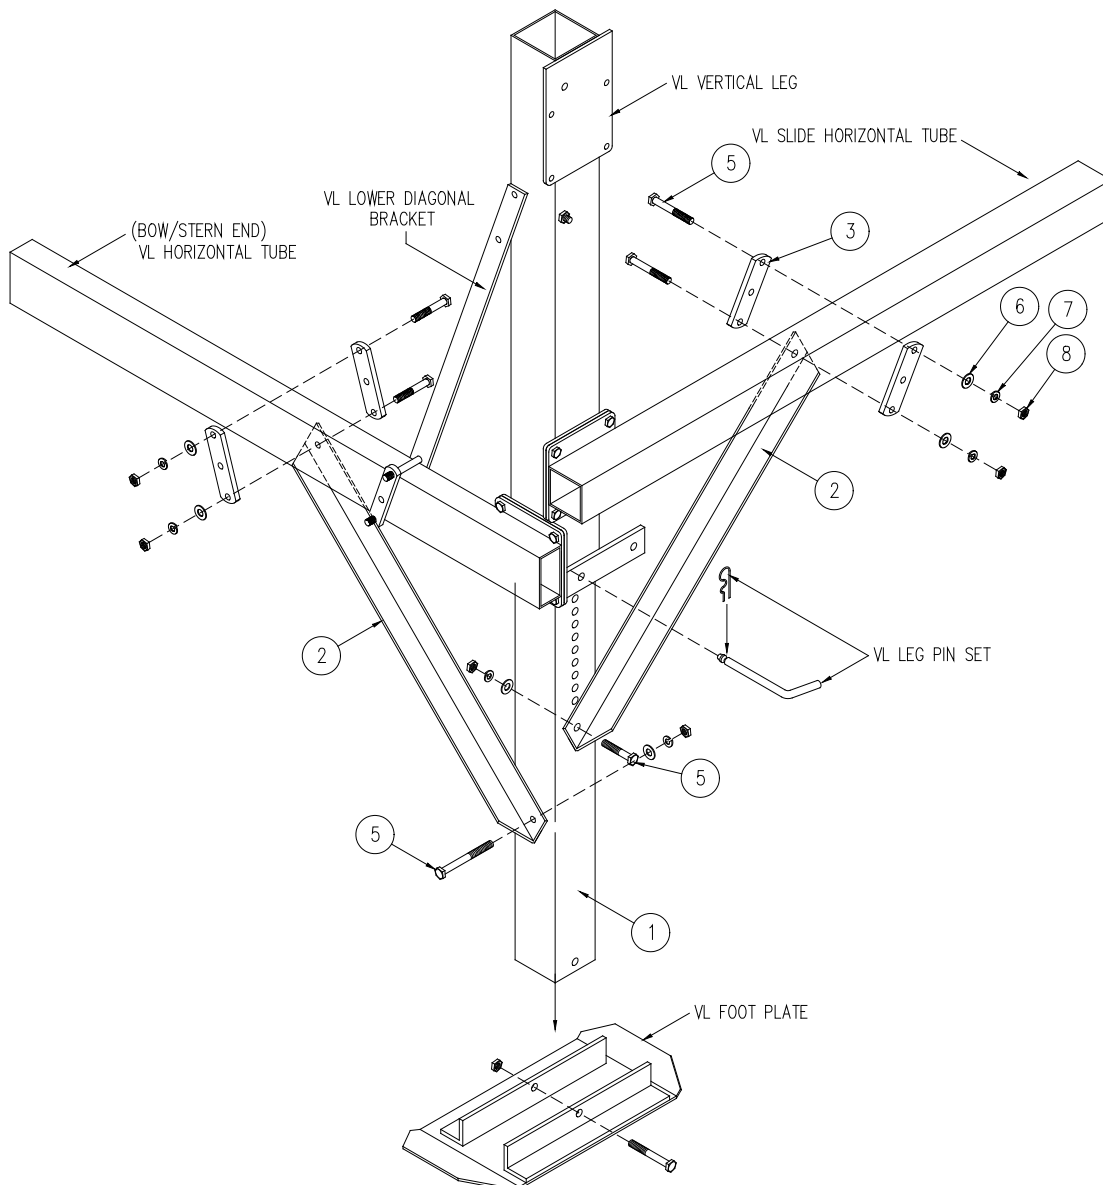

Figure 3-1.
1. **Refer to Figure 3-1.** Assemble the foot plate to the bottom end of the extension leg using a 1/2-13 x 5-1/2” HHCS and 1/2 “ locknut. (Foot plate and related hardware is supplied with your boat lift).
1. **Refer to Figure 3-1.** Fasten extension leg brace to end horizontal tube using (2) three hole plates and hardware shown (do not tighten).
4. Attach opposite end of extension leg brace to horizontal tube on side of lift with (2) three hole plates and hardware shown. Ensure extension legs are squared to frame of lift and tighten all fasteners to maintain position.